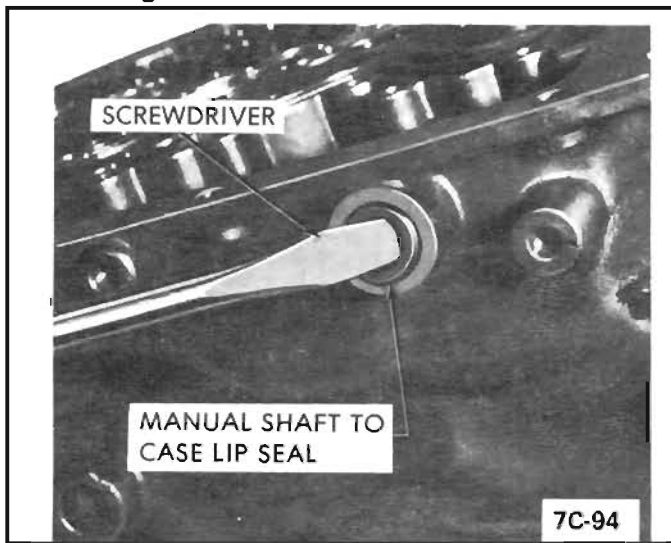

Figure 26 Manual Shaft Lip Seal Removal
c. Remove manual shaft to case lip seal, if necessary. See Figure 26.